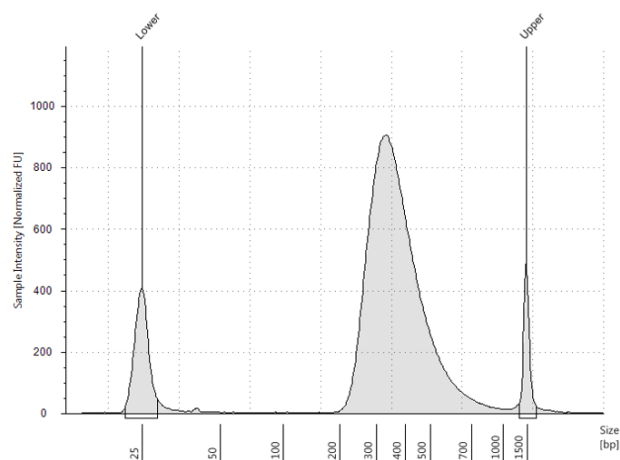
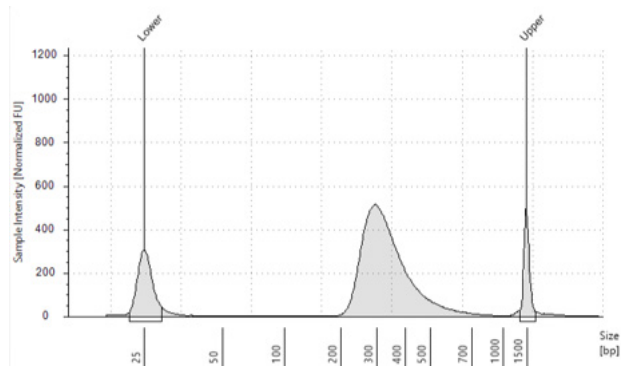
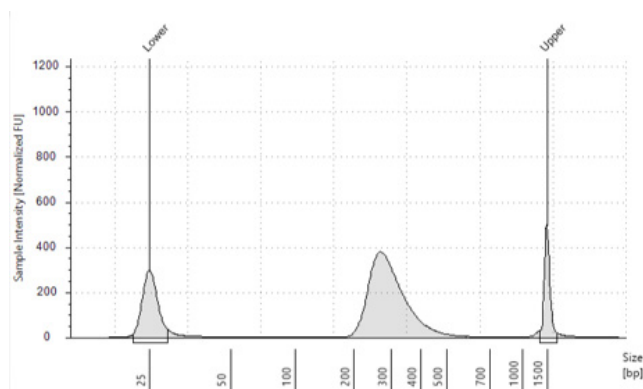

Figure 16 Post-capture library prepared from a high-quality gDNA sample analyzed using a High Sensitivity D1000 ScreenTape assay.
Figure 17 Post-capture library prepared from a typical FFPE gDNA sample analyzed using a High Sensitivity D1000 ScreenTape assay.
Figure 18 Post-capture library prepared from a low-quality FFPE gDNA sample analyzed using a High Sensitivity D1000 ScreenTape assay.
- 15 Verify that the electropherogram shows the expected DNA fragment size peak position (see Table 77 for guidelines). Sample electropherograms are shown in Figure 16 (library prepared from high-quality DNA), Figure 17 (library prepared from medium-quality FFPE DNA), and Figure 18 (library prepared from low-quality FFPE DNA).
Using manual preparation of the analytical samples, you can analyze the DNA samples on Agilent 2100 BioAnalyzer, Agilent 5200 Fragment Analyzer, or Agilent 4200/4150 TapeStation. Electropherograms obtained using one of these other analysis platforms are expected to show fragment size profiles similar to those shown for the Agilent 4200 TapeStation (see **Figure 16** through **Figure 18**). Verify that the electropherogram shows the expected DNA fragment size peak position (see **Table 77** for guidelines). **Table 78** includes links to assay instructions.